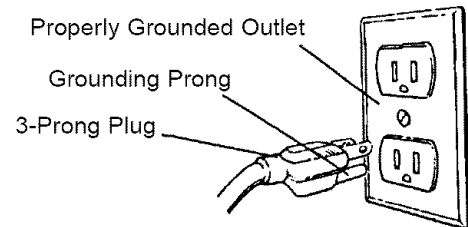

Figure 9 - 3-Prong Receptacle
- This tool is equipped with an approved 3-conductor cord rated at 300V and a 3-prong grounding type plug (see Figure 9) for your protection against shock hazards.
- Grounding plug should be plugged directly into a properly installed and grounded 3-prong grounding-type receptacle, as shown (Figure 9).